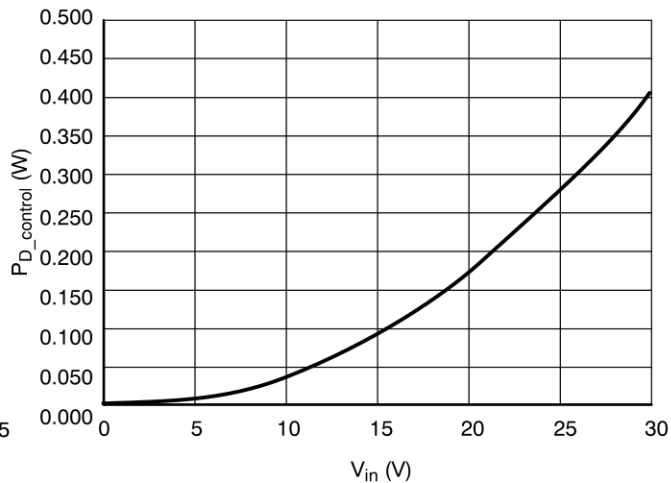

Figure 4. Internal Circuit Power Dissipation vs. Input Voltage
- Establish Power Dissipation on the NUD4001 device's control circuit per Figure 4:
- $P_{D_control} =$ Figure 4, for 12 V input voltage